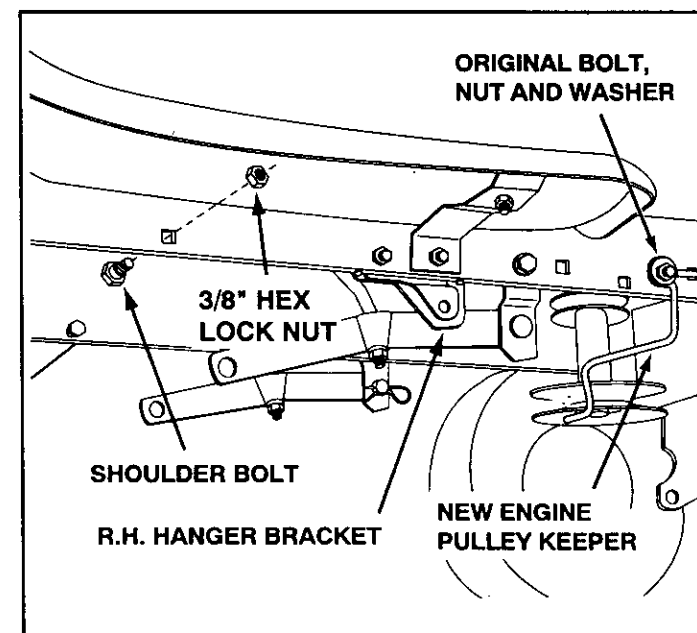

FIGURE 10 RIGHT SIDE VIEW
- Assemble a shoulder bolt and 3/8" hex lock nut to the R.H. side of the tractor frame, using the first empty hole to the rear of the R.H. hanger bracket. See figure 10.
- Replace the engine pulley keeper on your tractor with the new pulley keeper supplied with the snow blower. Attach the keeper to the frame using the original bolt, washer and nut. See figure 10.